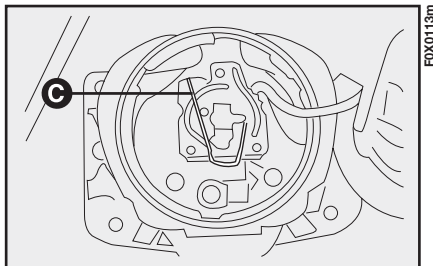

fig. 133
- remove the connector, release spring C-fig. 133 then remove the bulb;